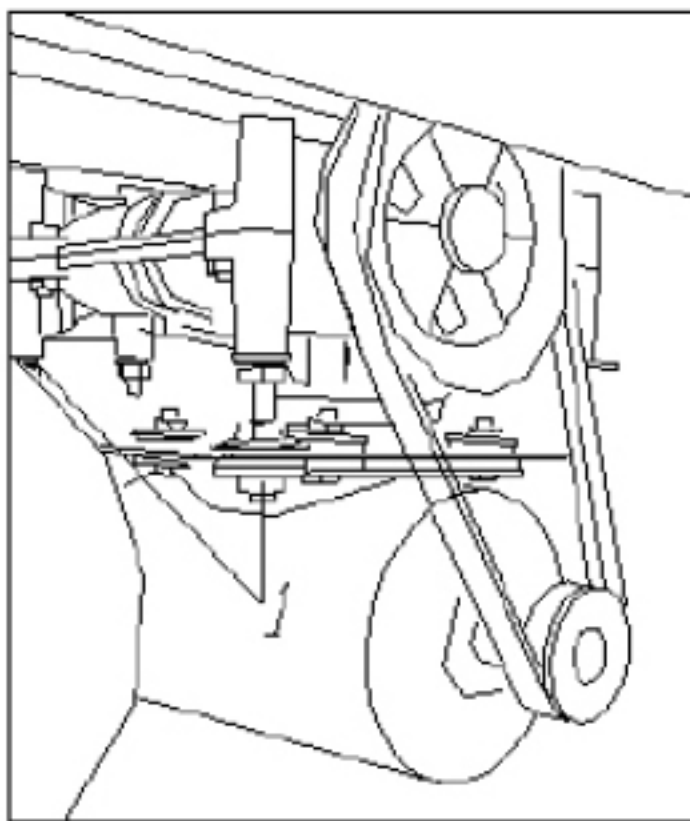

Figure 5-3
- c. Tighten the drive belt by means of the special adjusting screw (1) on the motor support until the belt move 8mm when adding a stress of 8kg on the belt. (Figure 5-3)